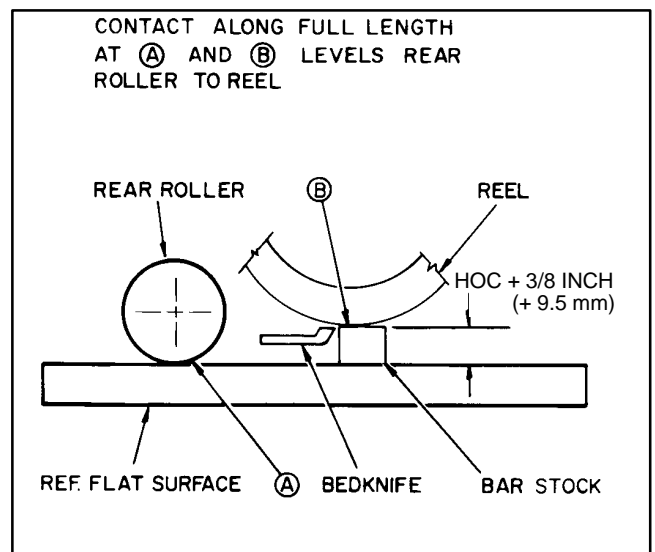

Figure 8
B. Insert a piece of bar stock 25 to 28 inches (64 to 71 cm) long and approximately 3/8 inch (9.5 mm) thicker than the desired height-of-cut under the reel and up against the bedknife cutting edge. The reel (not bedknife) must contact the bar stock along its full length (Fig. 8).